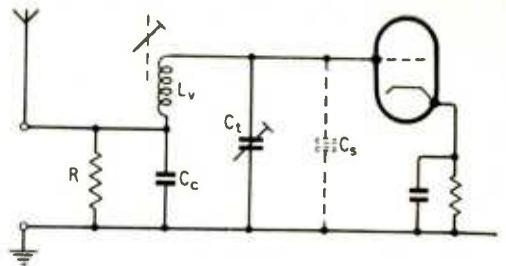

Fig. 5. Permeability-tuned aerial circuit.
(b) *Permeability-tuned Circuits*: Equation (3) also shows why this coupling system is especially suited for many applications of permeability-tuned aerial input circuits. One example is a car-radio design where an efficient coupling of the rather inefficient car-aerial was carried out by this method (see Fig. 5). With $C_a = 68$ pF, $C_c = 90$ pF, $C_t + C_s = C = 100$ pF, and the circuit Q varying between 20 and 40 over the band, the aerial step-up over the band was between 5.35 and 7.9. Thus with permeability-tuned circuits, and especially in applications (e.g., car-aerial installations) where the designer need not provide for much possible variation in C_a , a low value of C_c can be used to obtain good aerial gains even with low-Q aerial coils. It should be noted, however, that in mobile installations the equivalent series resistance of the aerial can, in some cases, become an important limiting factor in the determination of maximum obtainable aerial circuit gain.